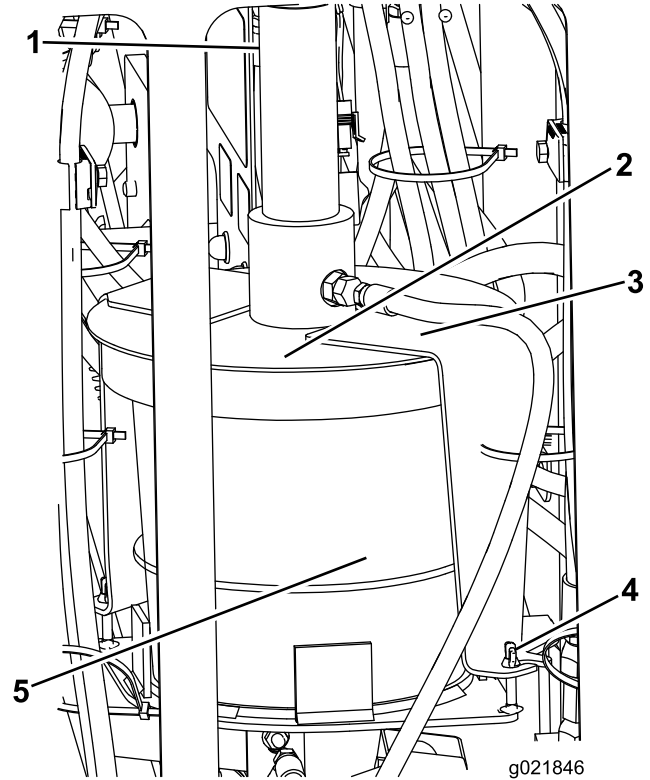

Figure 91
3. Loosen the wing nuts securing the cover straps to the machine (Figure 91).
4. Rotate the cover and pull the cover straps off the retaining bolts (Figure 91).
5. Lift the cover assembly off and out of the empty thread-joint-compound bucket (Figure 91).
7. Place the plunger into the new bucket and lower the cover assembly onto the bucket (Figure 91).
8. Slide the cover straps over the retaining bolts and rotate the cover to seat the straps on the bolts (Figure 91).